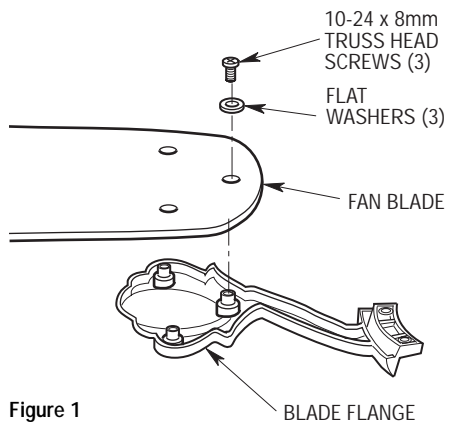

Figure 1
- 1. Mount the fan blades to the blade flanges using three 10-24 x 8mm truss head screws and three flat washers (screws and washers supplied) (Figure 1).